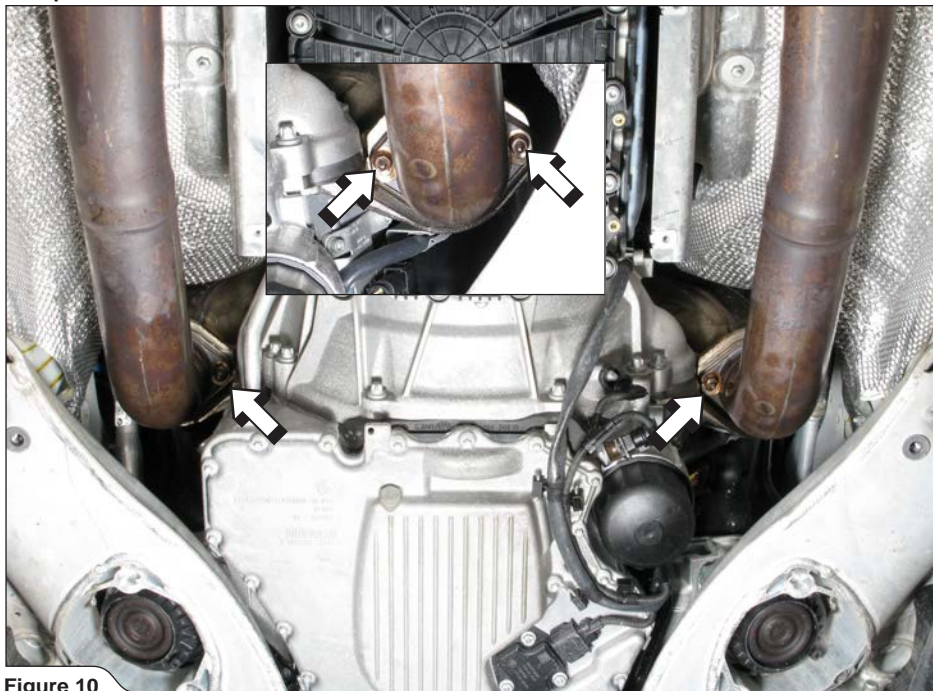

Figure 10
8. Support the stock exhaust system and unscrew the marked flanges' nuts (**Figure 10**).